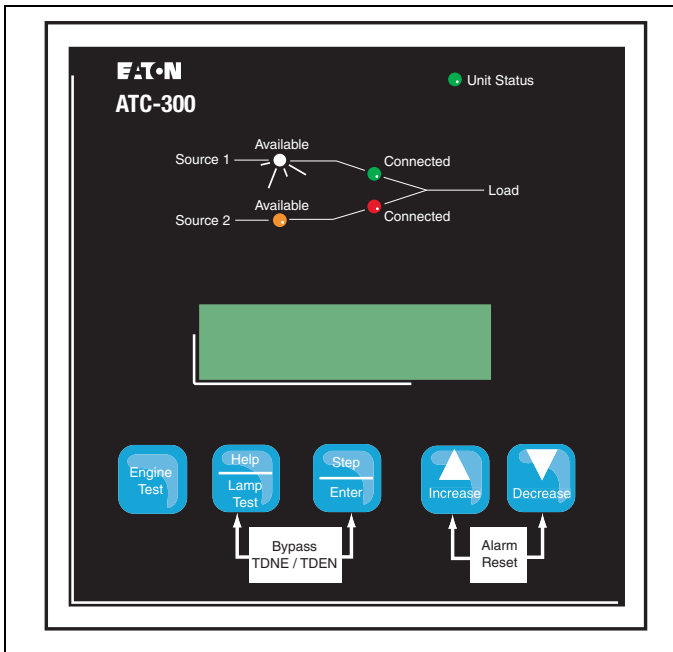

Figure 23. ATC-300 + Logic (Utility Supplying Load).
Step 5: Apply Utility (Source 1) power. If the switch is properly applied for the system voltage ordered, the display should work and the Source 1 Available white LED should light (Figure 23). Using a voltmeter, check for proper system voltage on Source 1 and load terminals. Check all phases on a 3-phase switch. Voltage measurements should be taken phase to phase and phase to neutral.